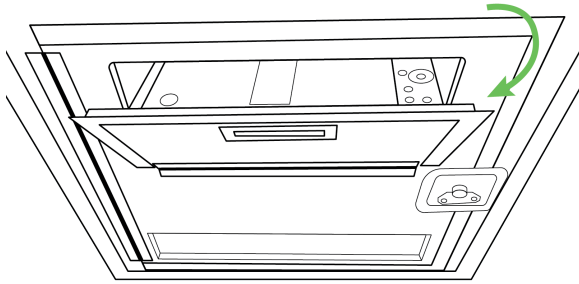

Figure 6-65. Exposing the printer door
7. Pull open the small hatch located on the front door of the setup box to expose the top of the printer (Figure 6-65).